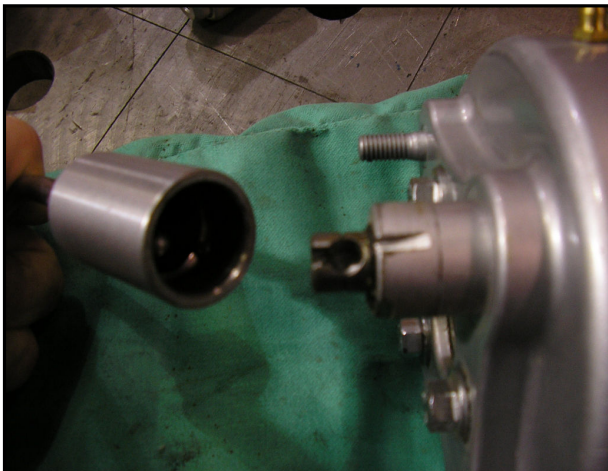

Fig 5
- C. Slip cap and cable assembly onto gearbox making sure to get the end of cable locked into the gearbox cut out. (Fig 5)